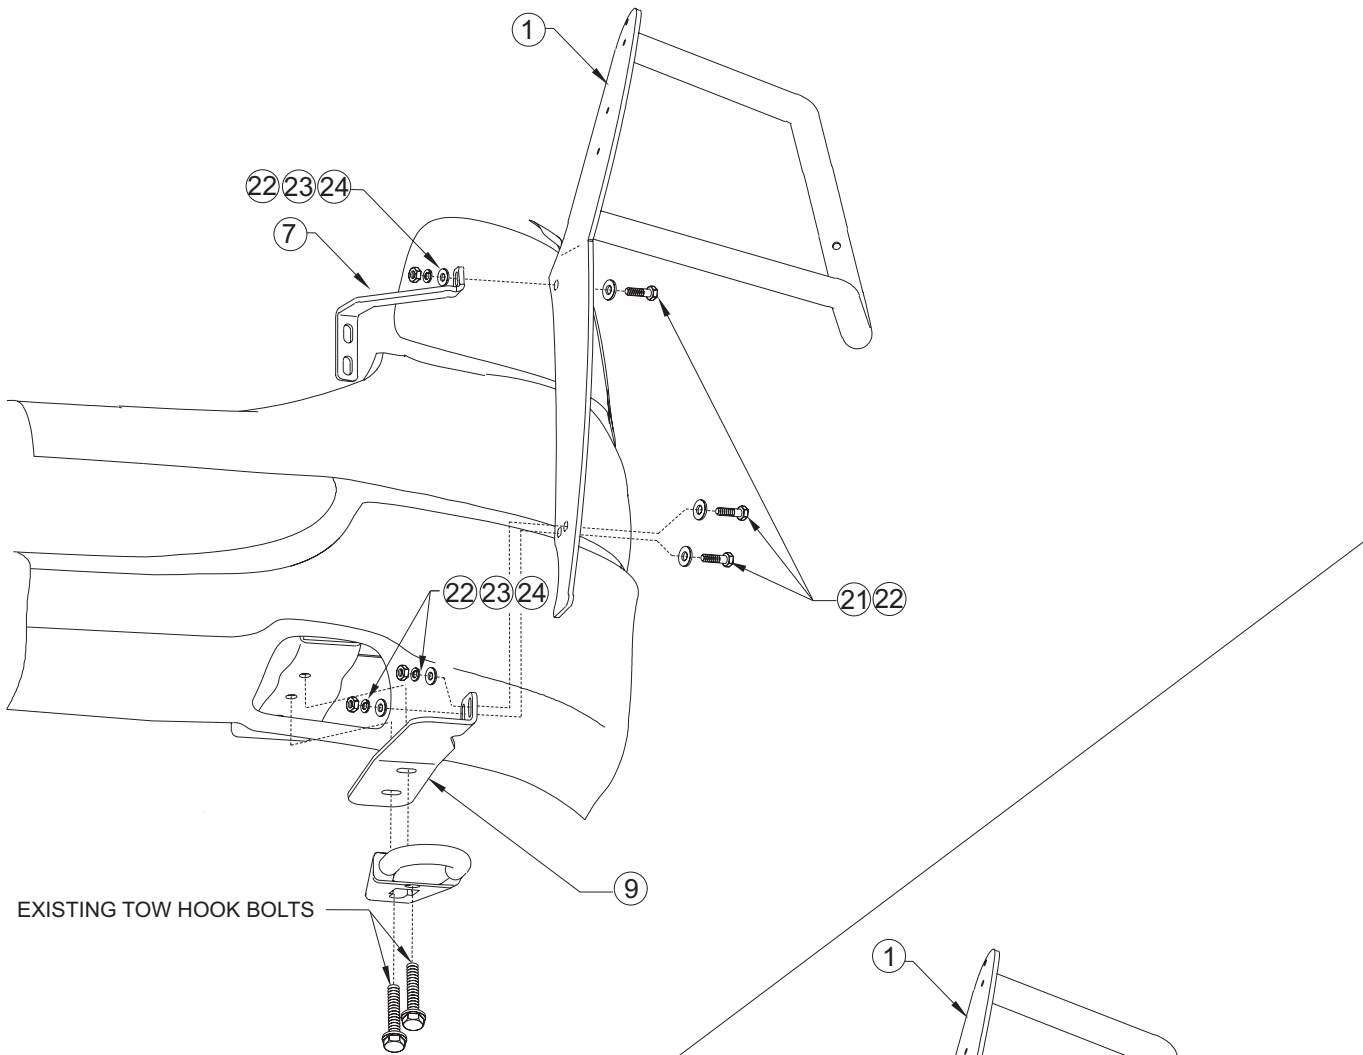

FIGURE 2
- STEP 4. Position bottom bracket up to bottom of frame and replace rear tow hook bolt. Slide tow hooks onto rear bolt and reinstall front bolt. Leave loose. **SEE FIGURE 2.** Go to step 6.